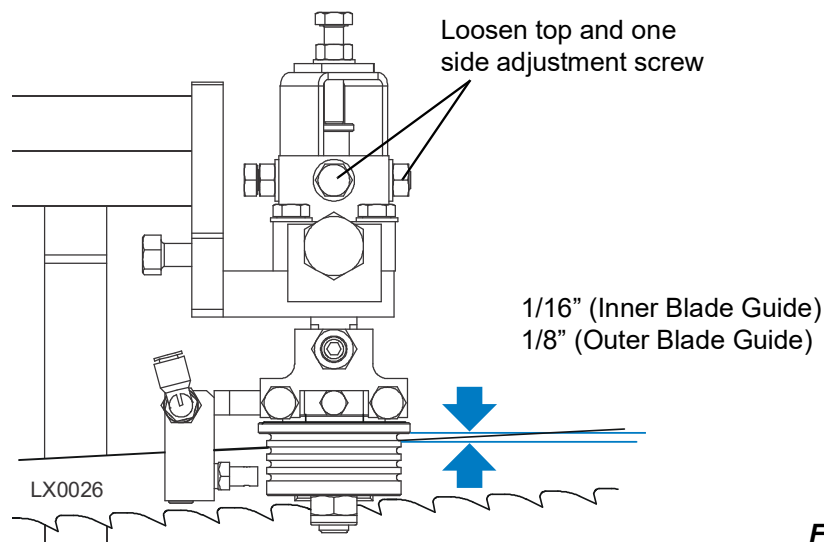

FIG. 7-10
2. Loosen the top and one side screw (See FIG. 7-10).